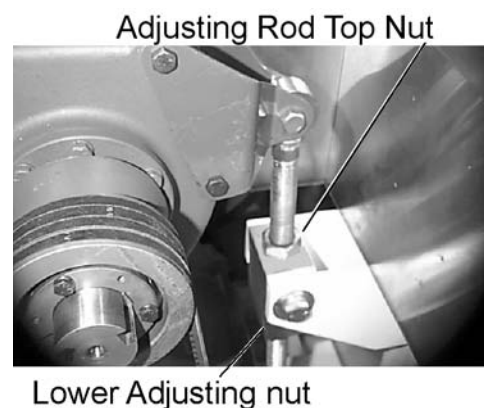

Figure 85 Adjusting the Belt Tension
1. Adjust belt tension by tightening the top hex nut to push the reducer upward. Belt tension should allow a 1/2" deflection at the center of each belt. (Pushed with thumb.) See Figure 85.